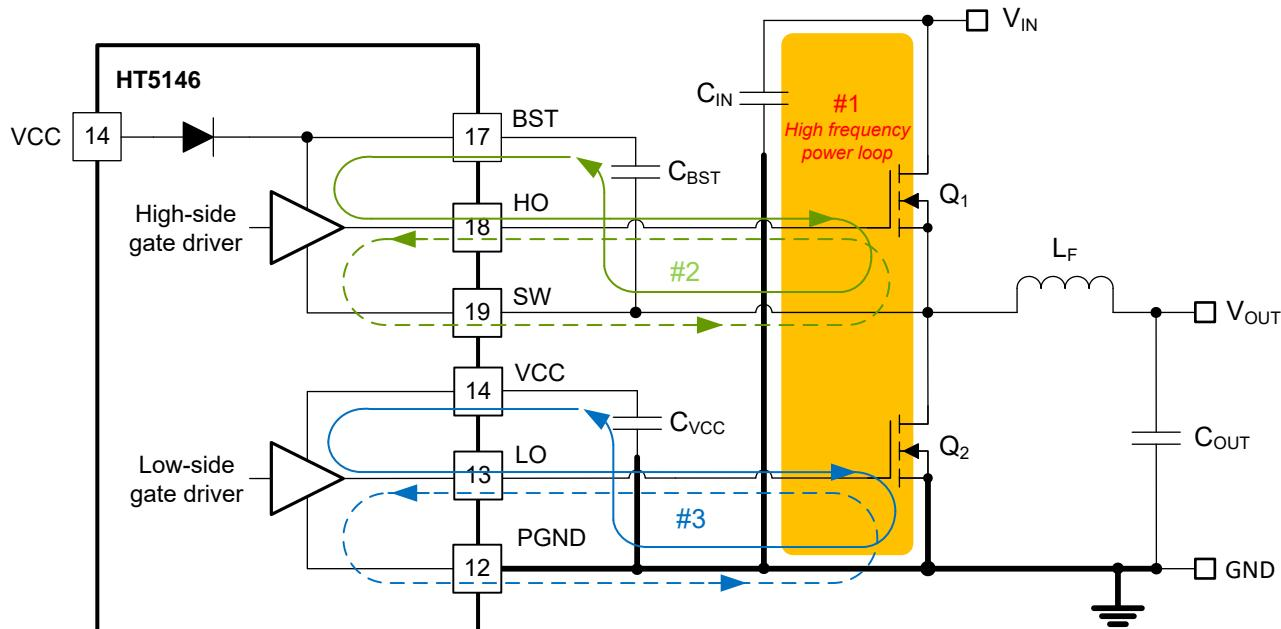

图 11-1. DC/DC Regulator Ground System With Power Stage and Gate Drive Circuit Switching Loops
Proper PCB design and layout is important in a high-current, fast-switching circuits (with high current and voltage slew rates) to assure appropriate device operation and design robustness. As expected, certain issues must be considered before designing a PCB layout using the HT5146. The high-frequency power loop of the buck converter power stage is denoted by #1 in the shaded area of 图 11-1. The topological architecture of a buck converter means that particularly high di/dt current flows in the components of loop 1, and it becomes mandatory to reduce the parasitic inductance of this loop by minimizing its effective loop area. Also important is the gate drive loops of the low-side and high-side MOSFETs, denoted by 2 and 3, respectively, in 图 11-1.
- Loop #1: The most important loop to minimize the area of is the path from the input capacitor or capacitors through the high- and low-side MOSFETs, and back to the capacitor or capacitors through the ground connection. Connect the input capacitor or capacitors negative terminal close to the source of the low-side MOSFET (at ground). Similarly, connect the input capacitor or capacitors positive terminal close to the drain of the high-side MOSFET (at V_{IN}). Refer to loop #1 of 图 11-1.
5. The SW pin connects to the switch node of the power conversion stage and acts as the return path for the high-side gate driver. The parasitic inductance inherent to loop #1 in 图 11-1 and the output capacitance (C_{oss}) of both power MOSFETs form a resonant circuit that induces high frequency (> 100 MHz) ringing on the SW node. The voltage peak of this ringing, if not controlled, can be significantly higher than the input voltage. Ensure that the peak ringing amplitude does not exceed the absolute maximum rating limit for the SW pin. In many cases, a series resistor and capacitor snubber network connected from the SW node to GND damps the ringing and decreases the peak amplitude. Provide provisions for snubber network components in the PCB layout. If testing reveals that the ringing amplitude at the SW pin is excessive, then include snubber components as needed.
- Loop 2: high-side MOSFET, Q_1 . During the high-side MOSFET turnon, high current flows from the bootstrap (boot) capacitor through the gate driver and high-side MOSFET, and back to the negative terminal of the boot capacitor through the SW connection. Conversely, to turn off the high-side MOSFET, high current flows from the gate of the high-side MOSFET through the gate driver and SW, and back to the source of the high-side MOSFET through the SW trace. Refer to loop #2 of 图 11-1.
- Loop 3: low-side MOSFET, Q_2 . During the low-side MOSFET turn-on, high current flows from the VCC decoupling capacitor through the gate driver and low-side MOSFET, and back to the negative terminal of the capacitor through ground. Conversely, to turn off the low-side MOSFET, high current flows from the gate of the low-side MOSFET through the gate driver and GND, and back to the source of the low-side MOSFET through ground. Refer to loop #3 of 图 11-1.